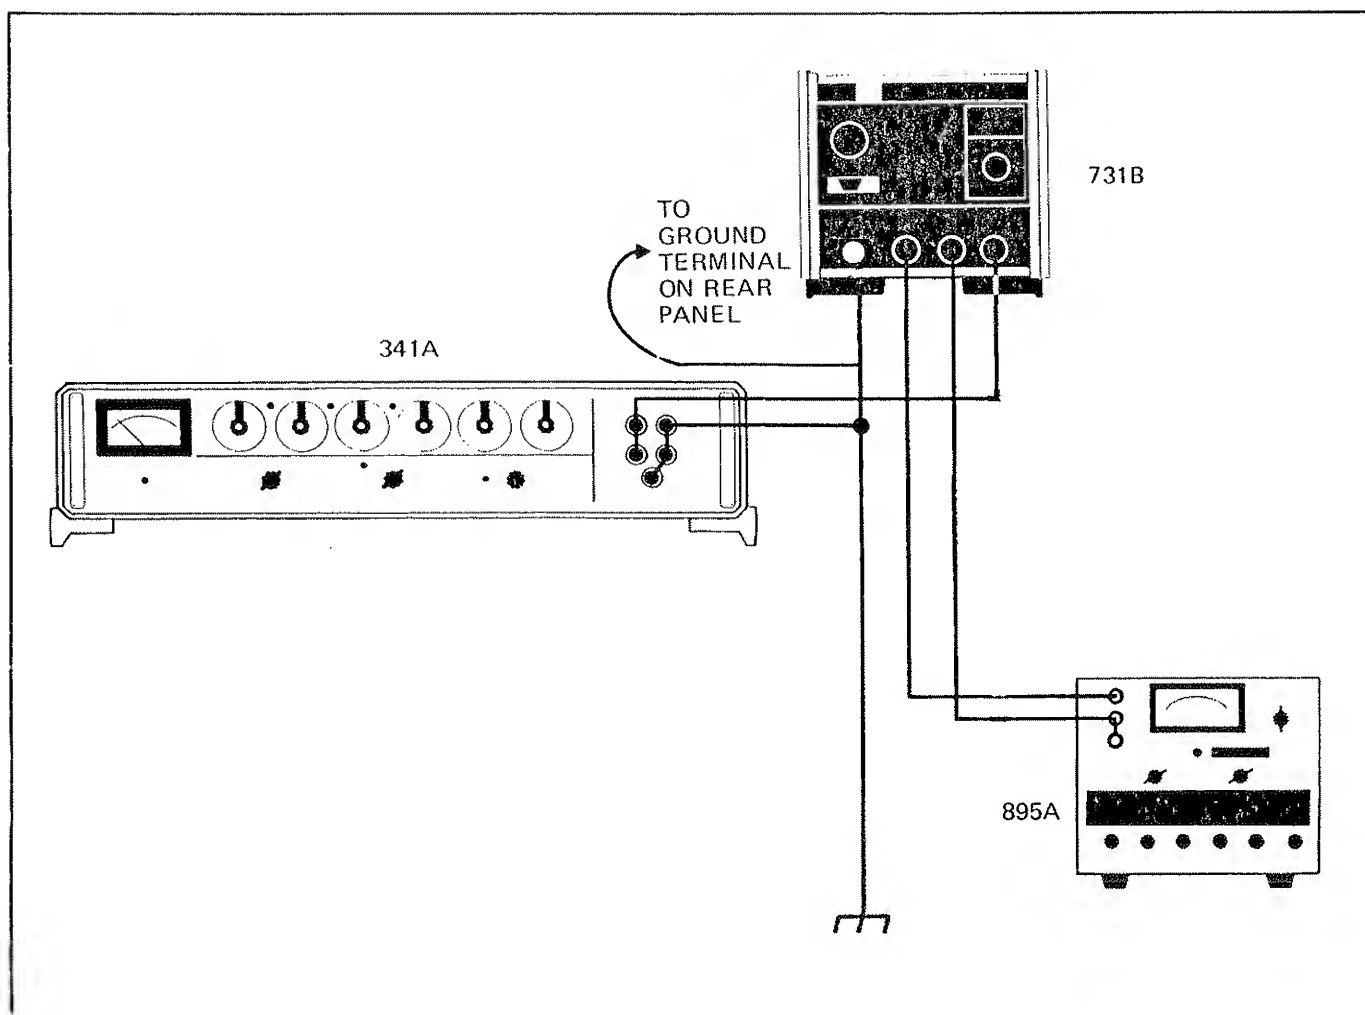

Figure 4-4. EQUIPMENT CONNECTIONS FOR COMMON-MODE REJECTION TEST.
- Connect equipment as shown in Figure 4-4.